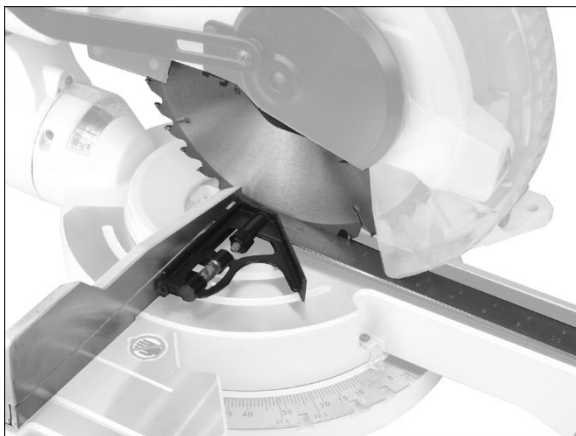

Figure 8-3
4. Place a combination square against fence and blade, as shown in Figure 8-3.